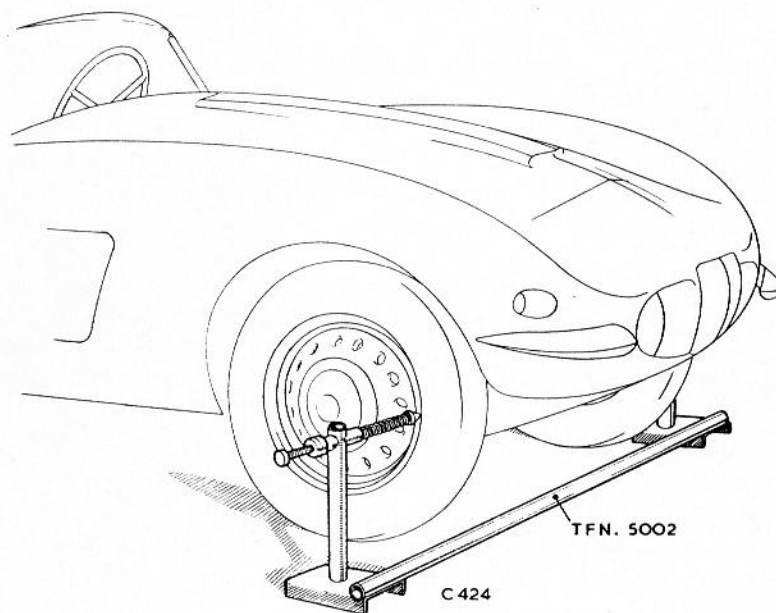

Fig. 12 Checking front wheel tracking.
2. Using the tracking bar TFN.5002, measure the front and rear edges of the wheel rims at hub level as shown in Fig. 12. Revolve the wheel and check in three positions. The wheels must be parallel with each other within a tolerance of  $\frac{3}{8}$ in. to  $\frac{3}{16}$ in. (3.18 m.m. to 4.76 m.m.).